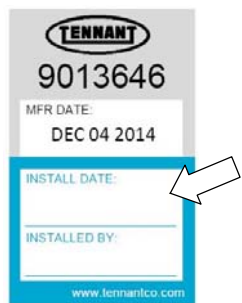

FIG. 143
4. Fill in the installation date on the new cartridge label (Figure 143).